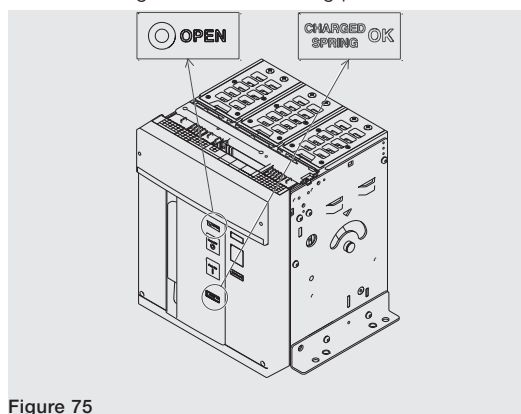

Figure 75
3. Check that the circuit-breaker is open (open/closed signalling device "O - OPEN"), and check that the springs are charged (springs signalling device "yellow - CHARGED SPRING") as indicated in Figure 75.